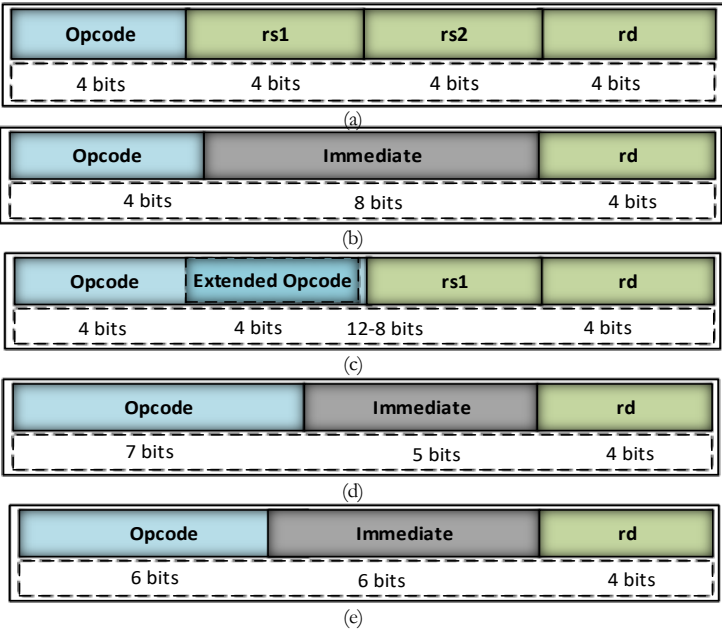

FIGURE 1.5 SAYAC instruction formats
FIGURE 1.5 shows various formats used in SAYAC instruction set. Format shown in FIGURE 1.5 (a) uses two 4-bit source register addresses and has a 4-bit destination
A variation of two operand instructions uses the format shown in FIGURE 1.5 (b). Here, *rd* is used for an operand and the destination. The other operand of the instruction is the 8-bit immediate that is sign extended (SE) to fill 16 bits. The shorthand notation of ADI (Add Immediate) is shown below: